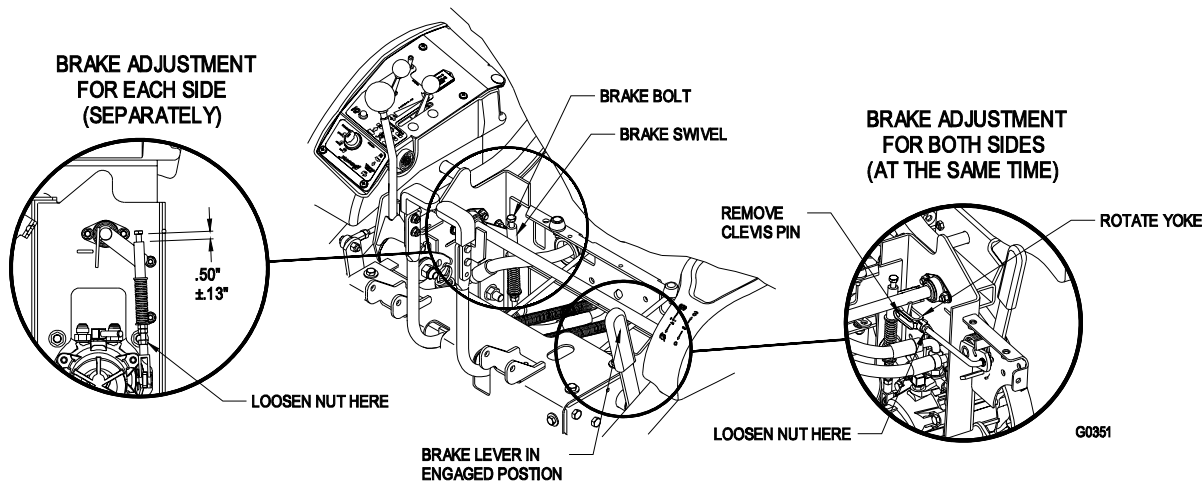

FIGURE 10
- b) A gap must exist between the bottom of the brake bolt head and the top surface of the brake swivel as shown in Figure 10. If a gap does not exist, adjust the linkage to a maximum gap of $0.5" \pm 0.13"$ (1.3 cm \pm 0.33 cm) as shown.
- c) The brakes on both sides can be simultaneously adjusted by lengthening or shortening the linkage shown in Figure 10.